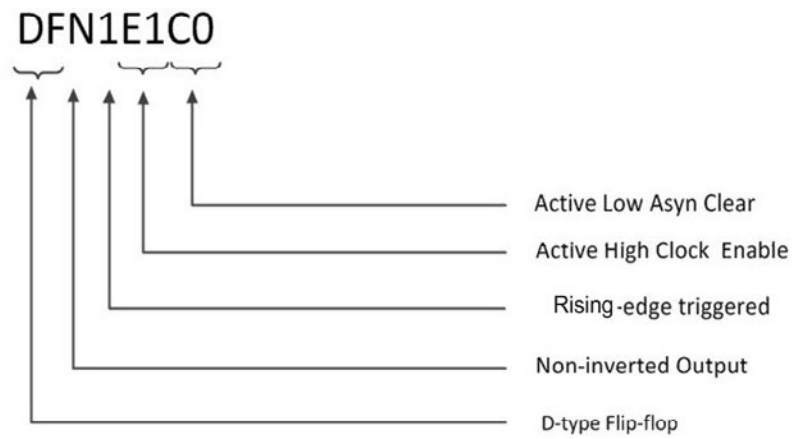

Figure 1 • Naming Convention
As an example, the macro DFN1E1C0 indicates a D-type flip-flop (DF) with a non-inverted (N) Q output, positive-edge triggered (1), with Active High Clock Enable (E1) and Active Low Asynchronous Clear (C0). See Figure 1.